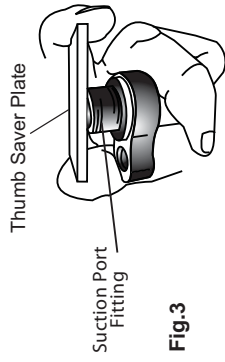

Fig. 3
8. Place the Thumb Saver Plate over the hand-inserted screen, holding onto the edges of the plate with your thumb and index finger (see Fig. 3).